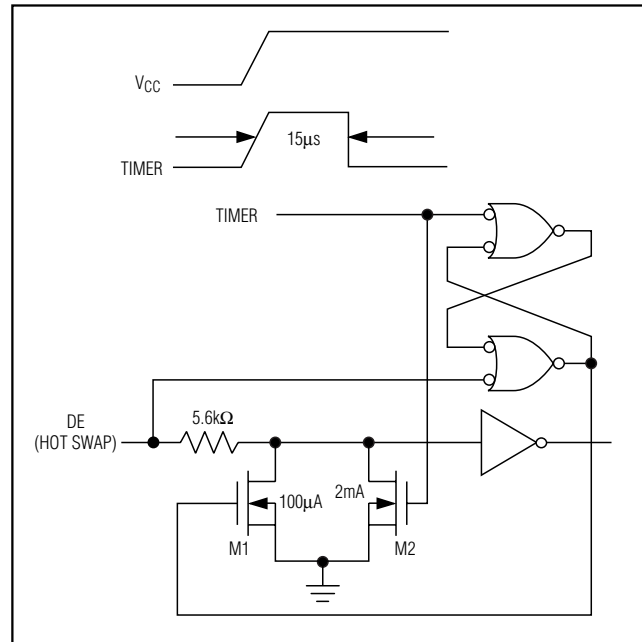

Figure 10. Simplified Structure of the Driver Enable Pin (DE)
At the driver-enable input (DE), there are two NMOS devices, M1 and M2 (Figure 10). When V_{CC} ramps from zero, an internal $15\mu s$ timer turns on M2 and sets the SR latch, which also turns on M1. Transistors M2, a $2mA$ current sink, and M1, a $100\mu A$ current sink, pull DE to GND through a $5.6k\Omega$ resistor. M2 pulls DE to the disabled state against an external parasitic capacitance up to $100pF$ that may drive DE high. After $15\mu s$, the timer deactivates M2 while M1 remains on, holding DE low against three-state leakage currents that may drive DE high. M1 remains on until an external current source overcomes the required input current. At this time, the SR latch resets M1 and turns off. When M1 turns off, DE reverts to a standard, high-impedance CMOS input. Whenever V_{CC} drops below $1V$, the input is reset.